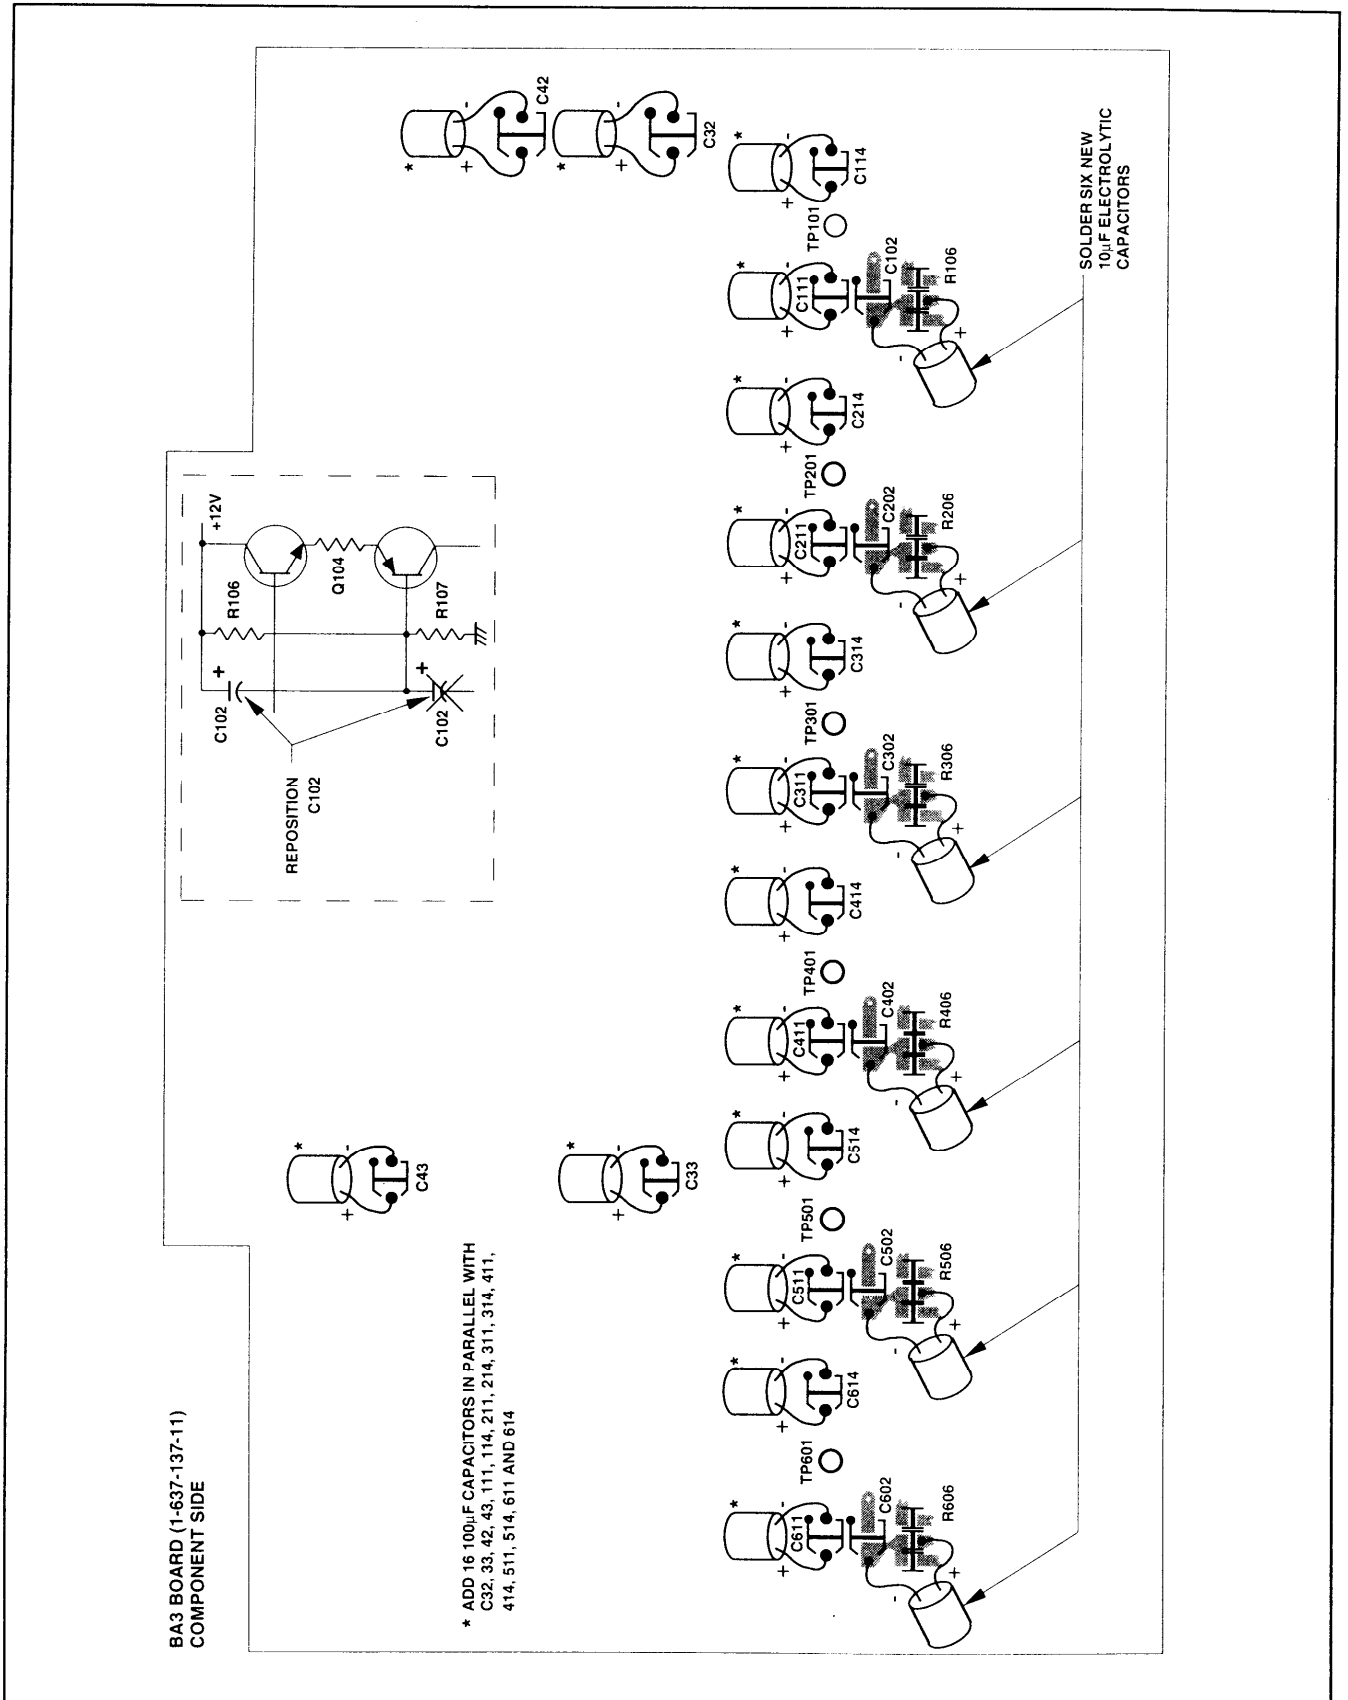

Figure 4
BA3 Board (1-637-137-11) Component Side (See Figure 4.)
2. Solder six new 10 μ F electrolytic capacitors at new positions shown in Figure 4.